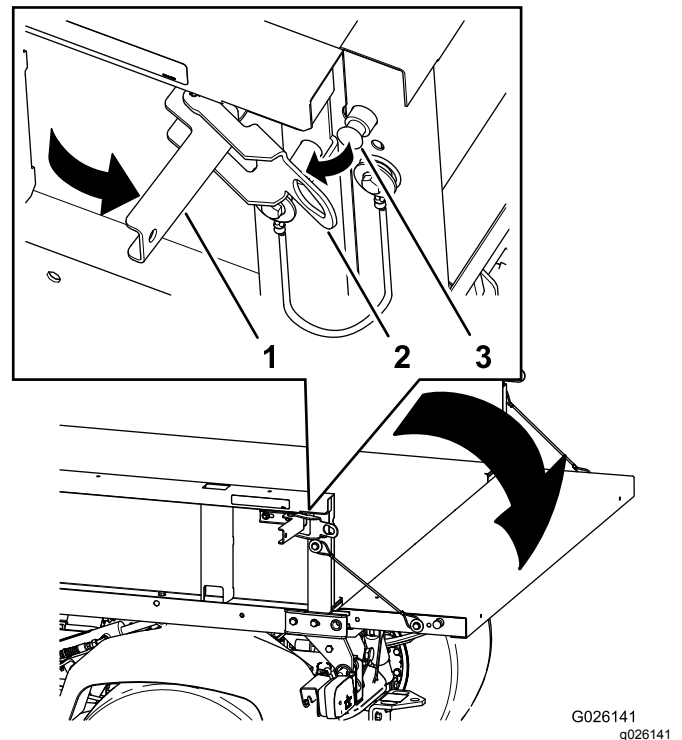

Figure 22
2. Open the latches on the left and right side of the cargo bed and lower the tailgate (Figure 22).